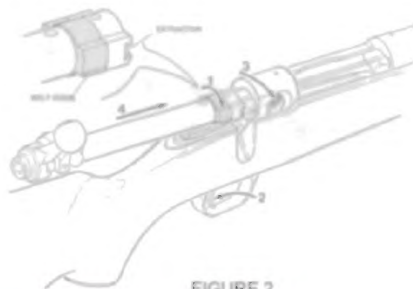

FIGURE 2
### BOLT INSTALLATION (SEE FIGURE 2)
3. Pull back on the trigger while pressing down on the COCKING INDICATOR (see FIGURE 2).